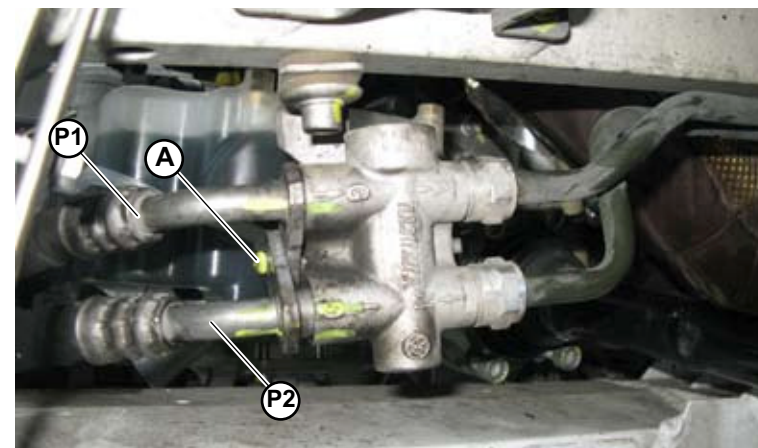

Fig.8
1. Loosen the fixing screws (A-Fig.8) and disconnect the rear P1 and P2 pipes from the temperature regulator.